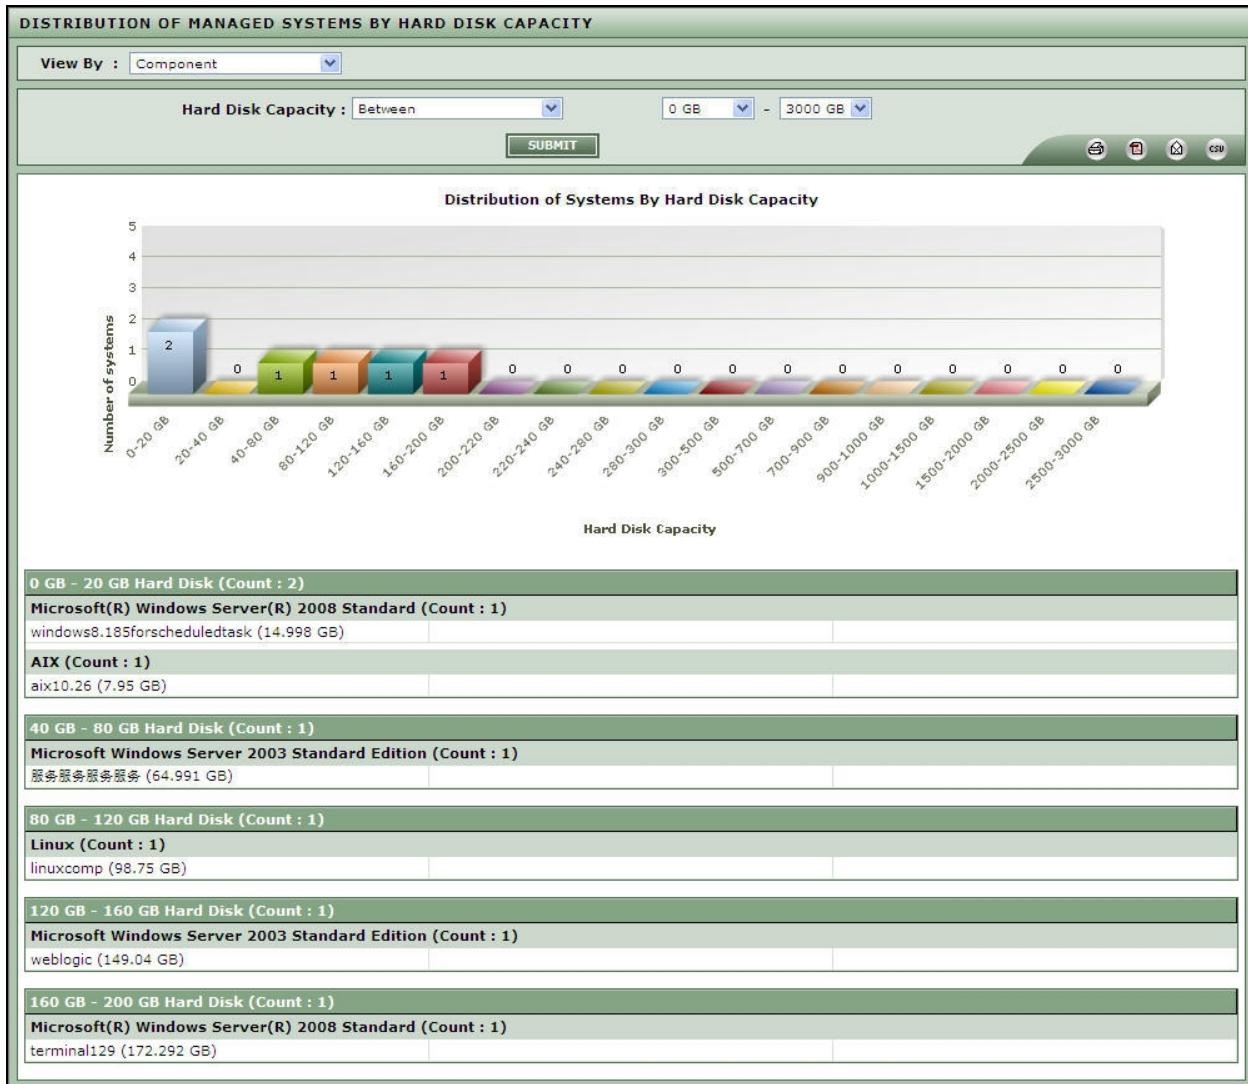

Figure 2.16: Distribution of systems by hard disk capacity
1. By default, the **Between** option is chosen from the **Hard Disk Capacity** list box as depicted in Figure 2.16. Similarly, from the adjoining list boxes, the values 0 GB and 300 GB are by default chosen - this indicates that the page will, by default, search for those systems with a disk space configuration in the range 0 GB - 300 GB. If required, you can specify a different capacity range by selecting the desired options from these list boxes.
3. Then, click the **SUBMIT** button. (see Figure 2.16).